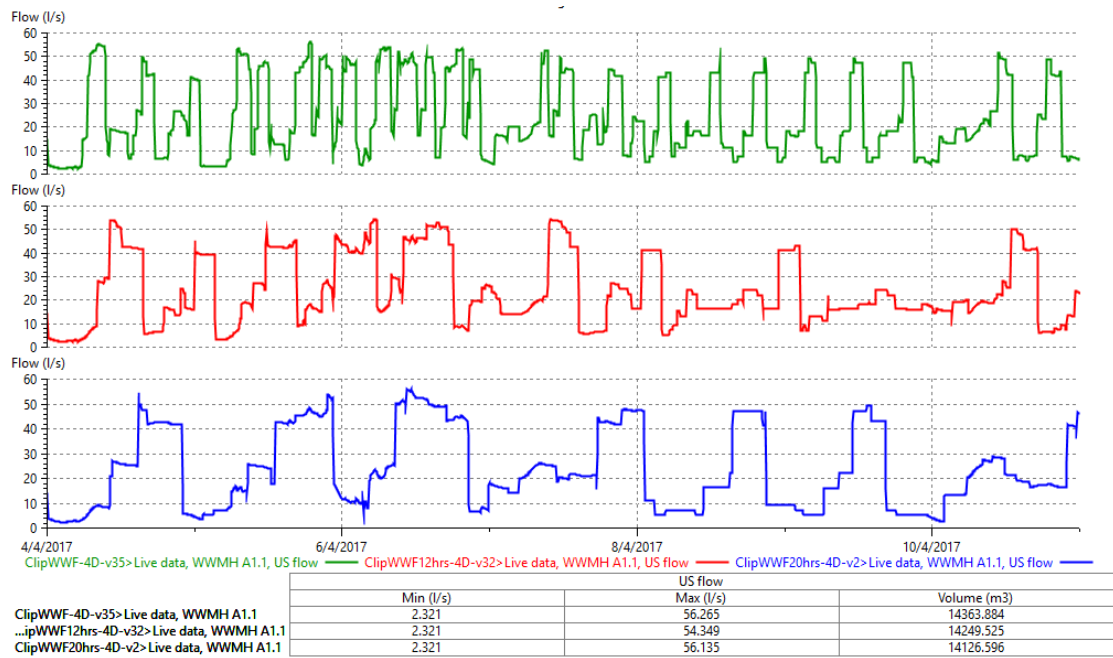

Figure 8. Mt Welcome full development discharge for different storage duration
Under the full NGA development, total overflow volumes are approximately 360m³, 562m³, and 578 m³ for the 8-, 12-, and 20-hour storage scenarios respectively, assuming no PSI attenuation or bulk upgrades. These differences arise from the way the internal pump stations at Mount Welcome discharge to the network—shorter storage durations result in more frequent pump activation, which reduces the peak load on the downstream system over time, as illustrated in Figure 8.
Figure 8 illustrates the discharge profiles for each storage scenario—8 hours (green), 12 hours (red), and 20 hours (blue). While the total discharged volume is the same across all scenarios, the 8-hour storage option distributes flows more evenly, resulting in improved flow management from the site and preventing overflows within the bulk network.
- An assessment of different pump storage duration designs was undertaken, providing more confidence in the proposed wastewater design. The 8-hour storage duration for the proposed pump stations results in a lower impact on the downstream network, as seen in Figure 8 and Table 10.